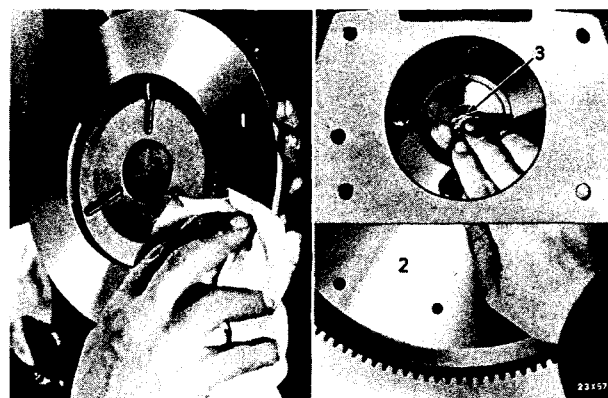

Fig. 6 — Cleaning Clutch Friction Surfaces and Lubricating the Pilot Bushing
Lubricate the bushing with a half teaspoon of short fiber grease (medium). Insert grease in bushing (not clutch shaft) as shown in Figure 6.
- (1) Coat main drive pinion bushing in the end of the crankshaft with a short fiber medium grease, as shown in Figure 6.
- (2) Clean surfaces of the flywheel and pressure plate thoroughly, making certain that no oil or grease remains on these parts.
- (3) Hold clutch cover plate and disc in place, and insert the aligner, Tool C-360, through hub of the driving disc and into the pi-